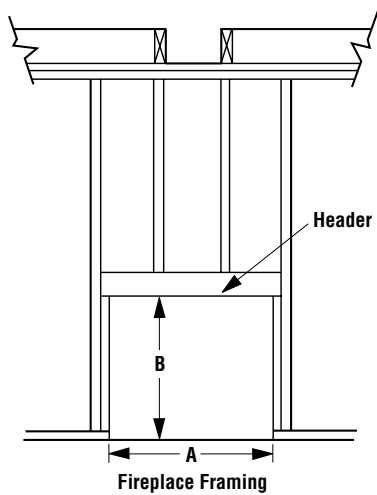

Figure 4
Step 1. Frame appliance enclosure as illustrated in **Figures 4 through 7** on **page 5**.